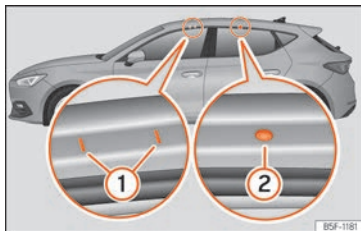

Fig. 143 Mounting points for the roof bars for the roof rack (Leon).
The front and rear attachment points ① and ② are only visible when the doors are open » **Fig. 143.**